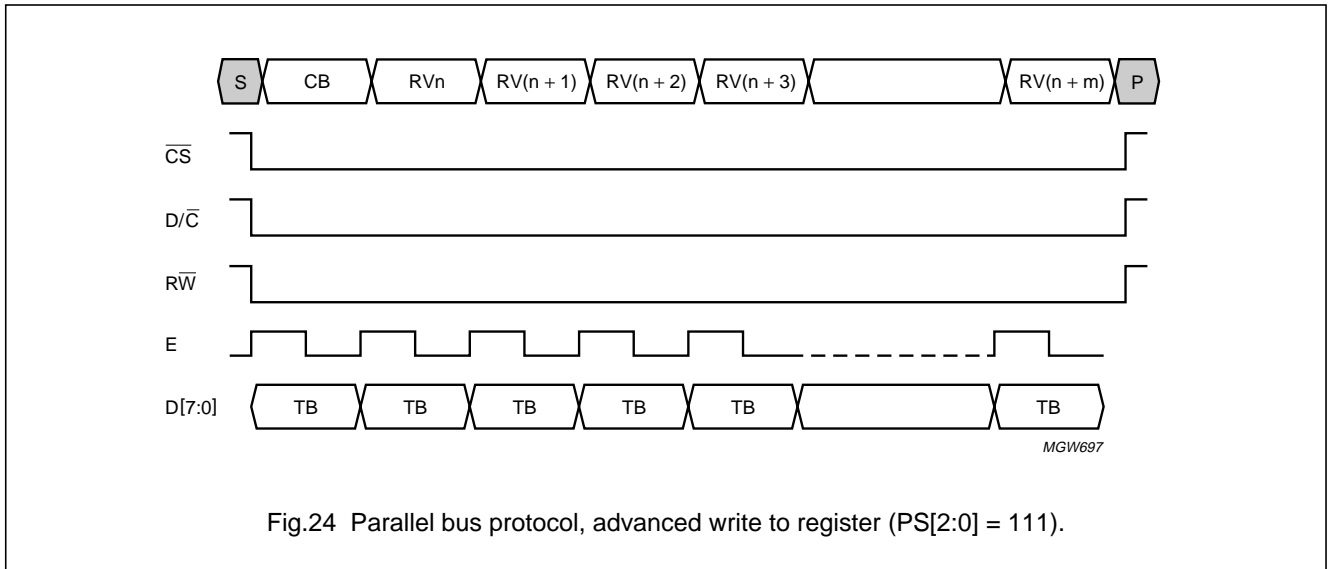

Fig.24 Parallel bus protocol, advanced write to register (PS[2:0] = 111).
The interface functions of the 6800-type parallel interface are shown in Table 19. Figures 24 to 29 show the data transfer in different modes. The transmission byte (TB) is